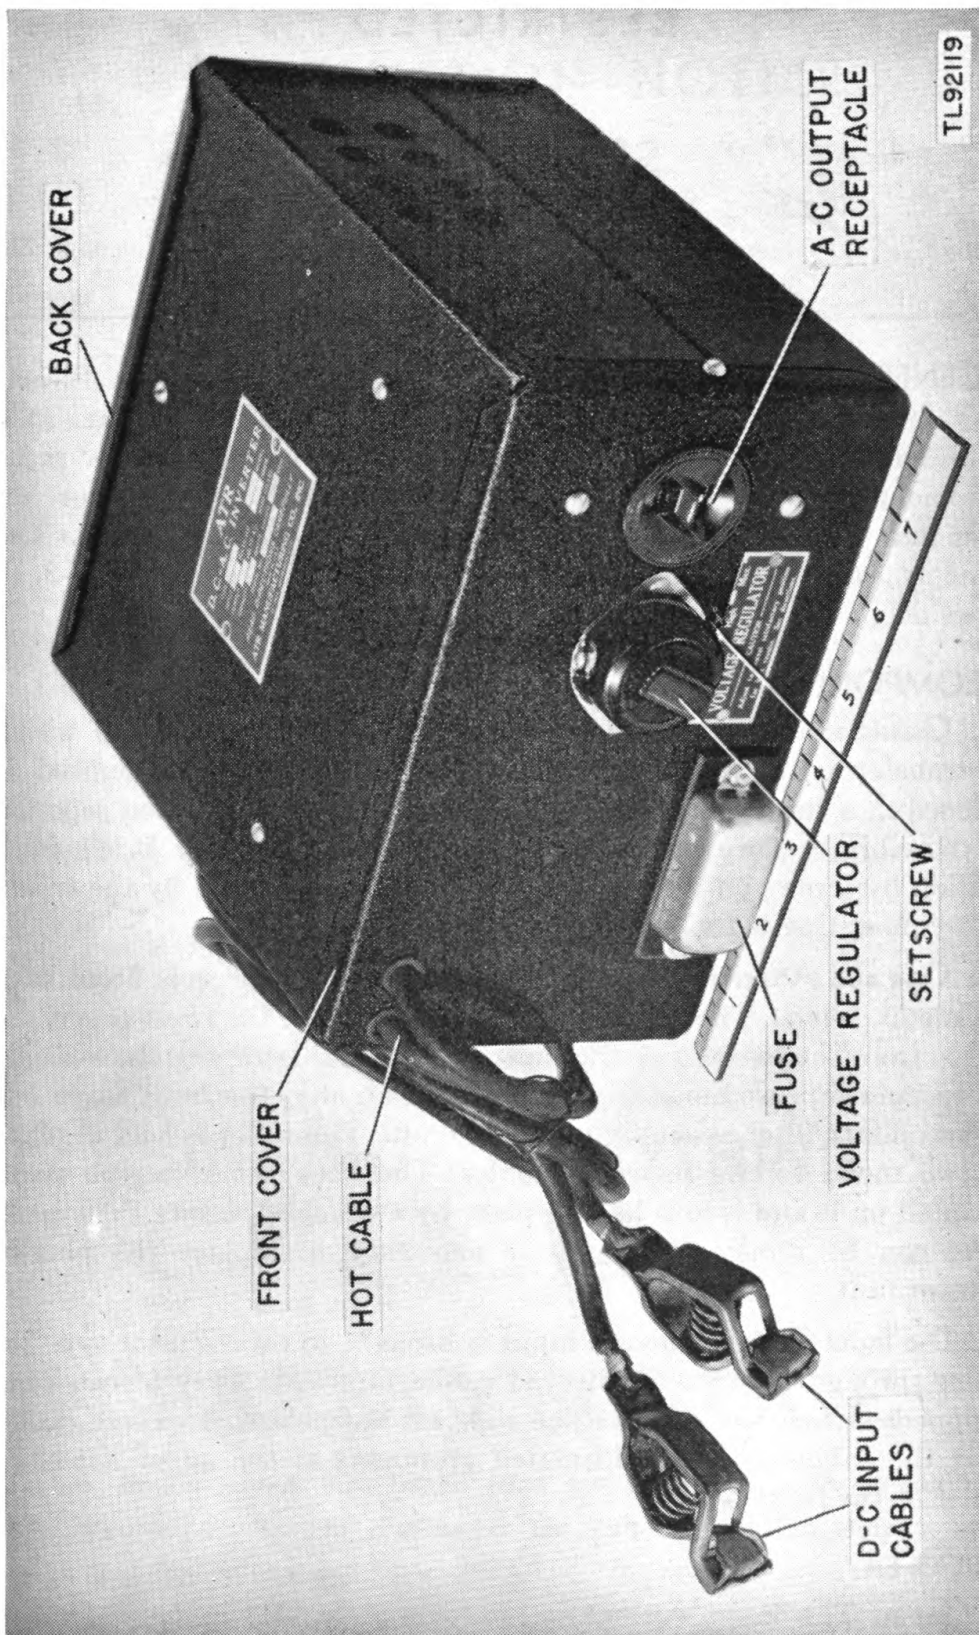
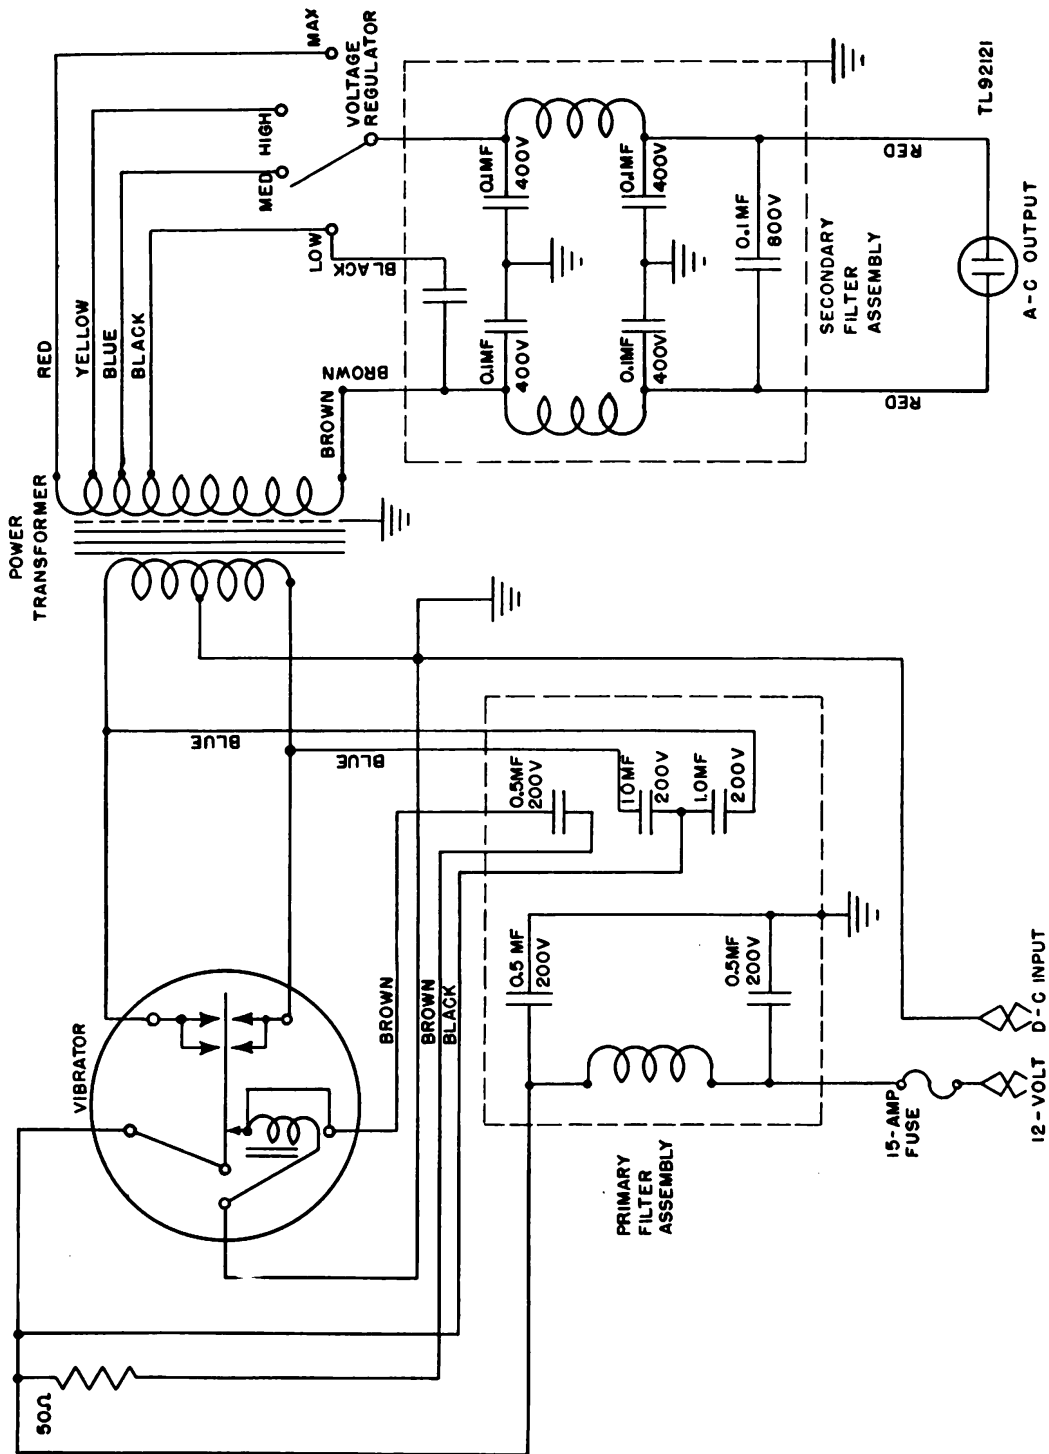

Figure 1. Vibrator type inverter (12-volt dc to 110-volt ac).
Figure 3. Vibrator type inverter (12-volt dc to 110-volt ac), circuit diagram
1. GENERAL. The vibrator type inverter (fig. 1) converts 12-volt direct current (dc) to 110-volt, 60-cycle alternating current (ac) at a continuous output wattage of 100 watts, for the operation of a-c radio equipment, or other electronic apparatus having a power factor not lower than 80 percent and an input rating not exceeding 90 watts. The complete unit weighs 17 pounds, and is $7\frac{7}{8}$ inches wide, $8\frac{3}{16}$ inches deep, and $4\frac{1}{2}$ inches high.
b. Setting Voltage Regulator. Before connecting the vibrator type inverter to the power source or load, check to see that the voltage regulator switch is in the correct position for the load to be operated. The output of the inverter with the switch in the LOW, MED, or HIGH positions is approximately 25, 50, or 75 watts, respectively. Check the rating of the equipment to be operated, and adjust the voltage regulator switch on the inverter to the **lowest** satisfactory operating position. This will reduce the danger of feeding excessive a-c voltage to the load. After turning the switch to the proper position, tighten the setscrew provided (fig. 1) to prevent the switch knob from being turned accidentally.
d. Connecting the Load. Plug the cable to the load into the a-c receptacle located on the front of the inverter (figs. 1 and 2), and leave it in that position.
b. When Battery is Grounded. When the storage battery used to operate the vibrator type inverter has one terminal grounded, as in the case of a vehicular installation, connect the ungrounded ("hot") input cable (figs. 1 and 2) to the ungrounded side of the battery and the grounded input cable (fig. 3) to the grounded side of the battery.
9. CIRCUIT. Figure 3 is a circuit diagram of the vibrator type inverter, showing the various components in relation to one another. The functions of the parts shown on the diagram are discussed in paragraphs 10 through 15.
10. TRANSFORMER (fig. 3). The primary winding of the transformer is center-tapped and is connected through the vibrator and the 15-ampere line fuse to the 12-volt storage battery. The secondary winding is tapped at points corresponding to the LOW, MED. HIGH, and MAX positions on the voltage regulator switch. The output of the transformer secondary can be varied by use of this switch, which is connected to these secondary taps (fig. 3). The transformer secondary is shielded from the primary by an electrostatic shield, which is grounded.
11. VIBRATOR. The vibrator used is connected to the primary of the transformer (fig. 3), which is center-tapped to form a full-wave vibrator circuit. The vibrator is in effect a double-pole, double-throw, vibrating switch. It is a 10-contact, plug-in unit, with dual contact arms, using eight $\frac{1}{4}$ -inch diameter tungsten power contacts and two silver alloy driver contacts. Two sets of the power contacts are mounted on the vibrator reed, and the other two sets are stationary. The vibrator reed is set in motion by an electromagnet energized when the d-c input is applied, and operates at its tuned frequency of 60 cycles per second. When the vibrator reed is in operation, each set of stationary contacts is closed alternately, sending direct current through the half of the center-tapped primary to which it is connected. The pulsating direct current flowing alternately in opposite directions in the center-tapped primary induces a 60-cycle current in the transformer secondary.
12. VOLTAGE REGULATOR. The voltage regulator (fig. 3) is a tap-changing switch, and has markings of LOW, MED, HIGH, and MAX on the dial for indexed contacts connected to corresponding taps on the secondary of the transformer. The LOW, MED, and HIGH positions represent approximately $\frac{1}{4}$, $\frac{1}{2}$, and $\frac{3}{4}$ of the total output of the inverter.
13. PRIMARY FILTER ASSEMBLY. The primary filter assembly (fig. 3) consists of a radio-frequency choke coil and suitable capacitors. The coil and capacitors are connected so as to eliminate any radio-frequency interference in the primary circuit.
14. SECONDARY FILTER ASSEMBLY. The secondary filter assembly (fig. 3) is composed of radio-frequency choke coils and capacitors connected for the purpose of eliminating radio-frequencies from the a-c output circuit of the inverter.
15. FUSE. The 15-ampere fuse (fig. 3), connected in the ungrounded ("hot") cable on the input side of the inverter, protects the vibrator and transformer from excessive input current.
b. Transformer Circuit Resistances. Measurements below are made with the parts under test connected to their associated components in a normal manner, except for the vibrator unit which must be removed (fig. 3).
NOTE: In making the above resistance measurements for the primary, simply insert test leads in the two filament prongs of the vibrator socket. For the secondary, insert test leads in a-c output receptacle and vary the voltage regulator switch from LOW to MAX, which corresponds to the terminals indicated above (fig. 3).
c. **Circuit Capacitances.** Measurements are made with the parts under test connected to their associated components in a normal manner, except for the vibrator unit, which must be removed (fig. 3).